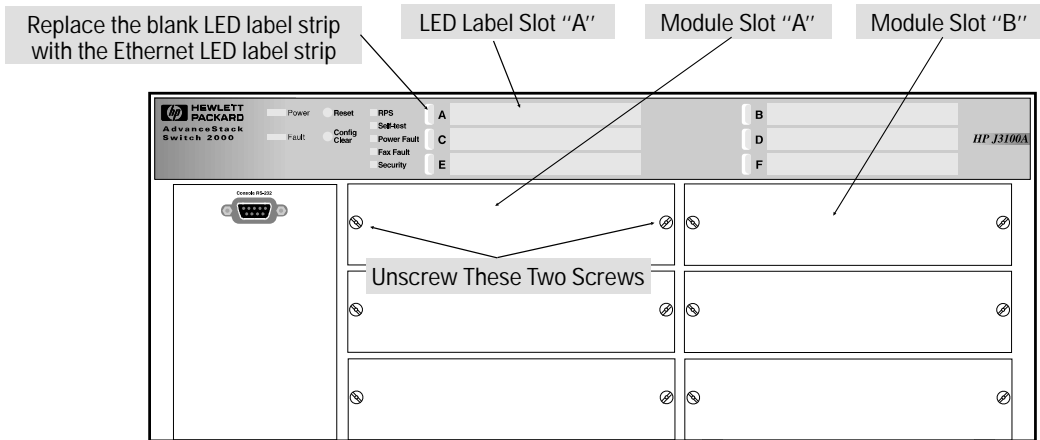

Figure 1. Remove the Cover Plate from an Unused Switch Port
1. Slide out the blank LED label strip from the label slot corresponding to the physical slot in which you will install the module. The LED label strips have a small loop on the left end. Use your fingernail or a small implement to catch the loop and slide the label to the left and out of the label slot. Then insert the LED label strip you received with the Ethernet Module. For example, if you are going to install the module in slot "A", you would replace the blank LED label strip in label slot "A" with the new LED label strip for the Ethernet Module. (Refer to Figure 1, on the next page.)
2. Using a Torx T-10 or slotted screw driver, unscrew the screws in the cover plate over the slot you want to use, and remove the cover. Store the cover plate with its screws for possible future use. For example, to install a module in slot A, see Figure 1.